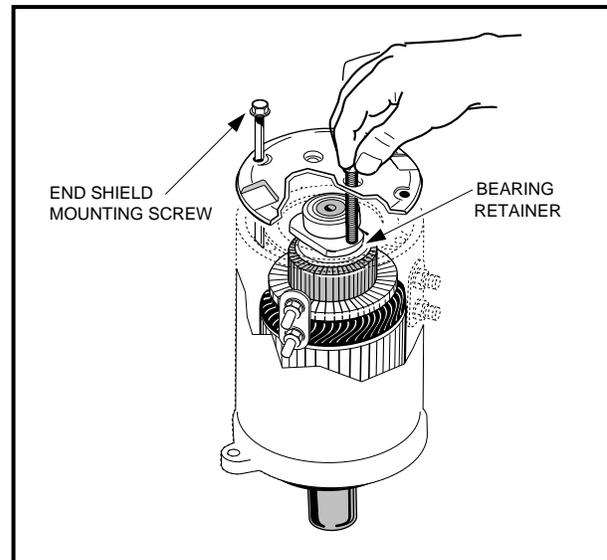

Figure 15-16 End Shield Installation
- USE A LONG SCREW WITH THE SAME THREAD SPECIFICATIONS AS THE MOUNTING SCREWS TO MAINTAIN HOLE ALIGNMENT WHILE STARTING THE FIRST MOUNTING SCREW. **SEE FIGURE 15-16, PAGE 15-12.**